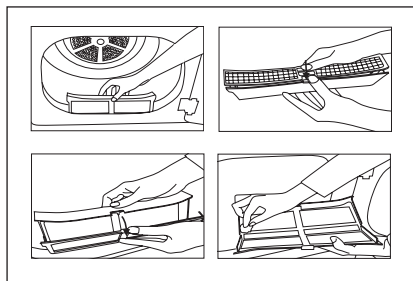

Figure 1
- 2.a If the product's fluff filter can be opened as shown in Figure 1, remove the filter by pulling it up and open the filter.